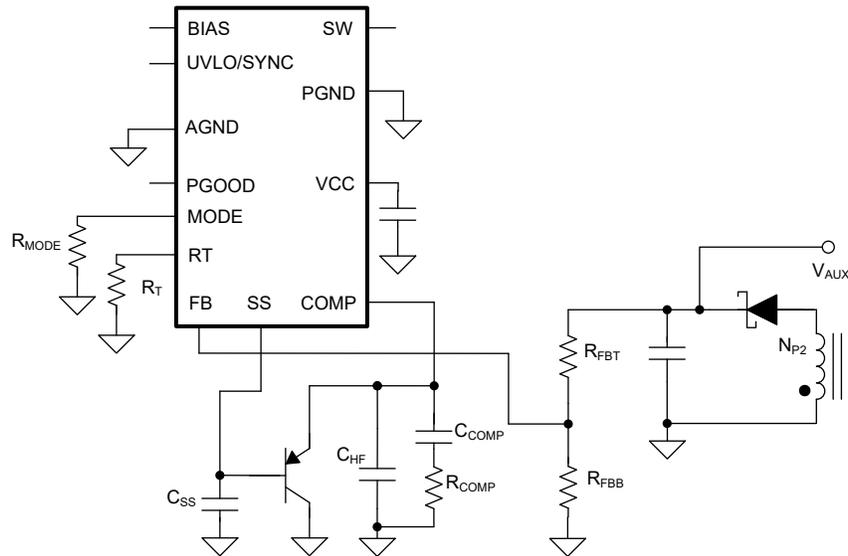

Figure 4-1. PNP Bipolar Transistor Between the Soft Start Pin and the COMP Pin
| Figure 4-1. PNP Bipolar Transistor Between the Soft Start Pin and the COMP Pin..... | 6 |
- The PNP bipolar transistor between the soft start pin and the COMP pin as shown in Figure 4-1